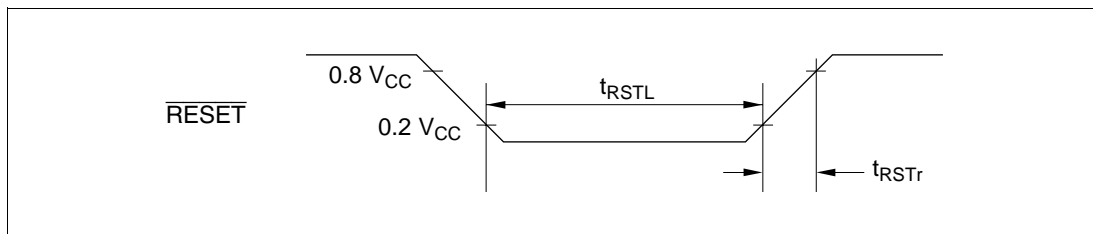

Figure 25-33 Reset Timing (HD404369 Series)
5. See figure 25-33.
6. See figure 25-33.